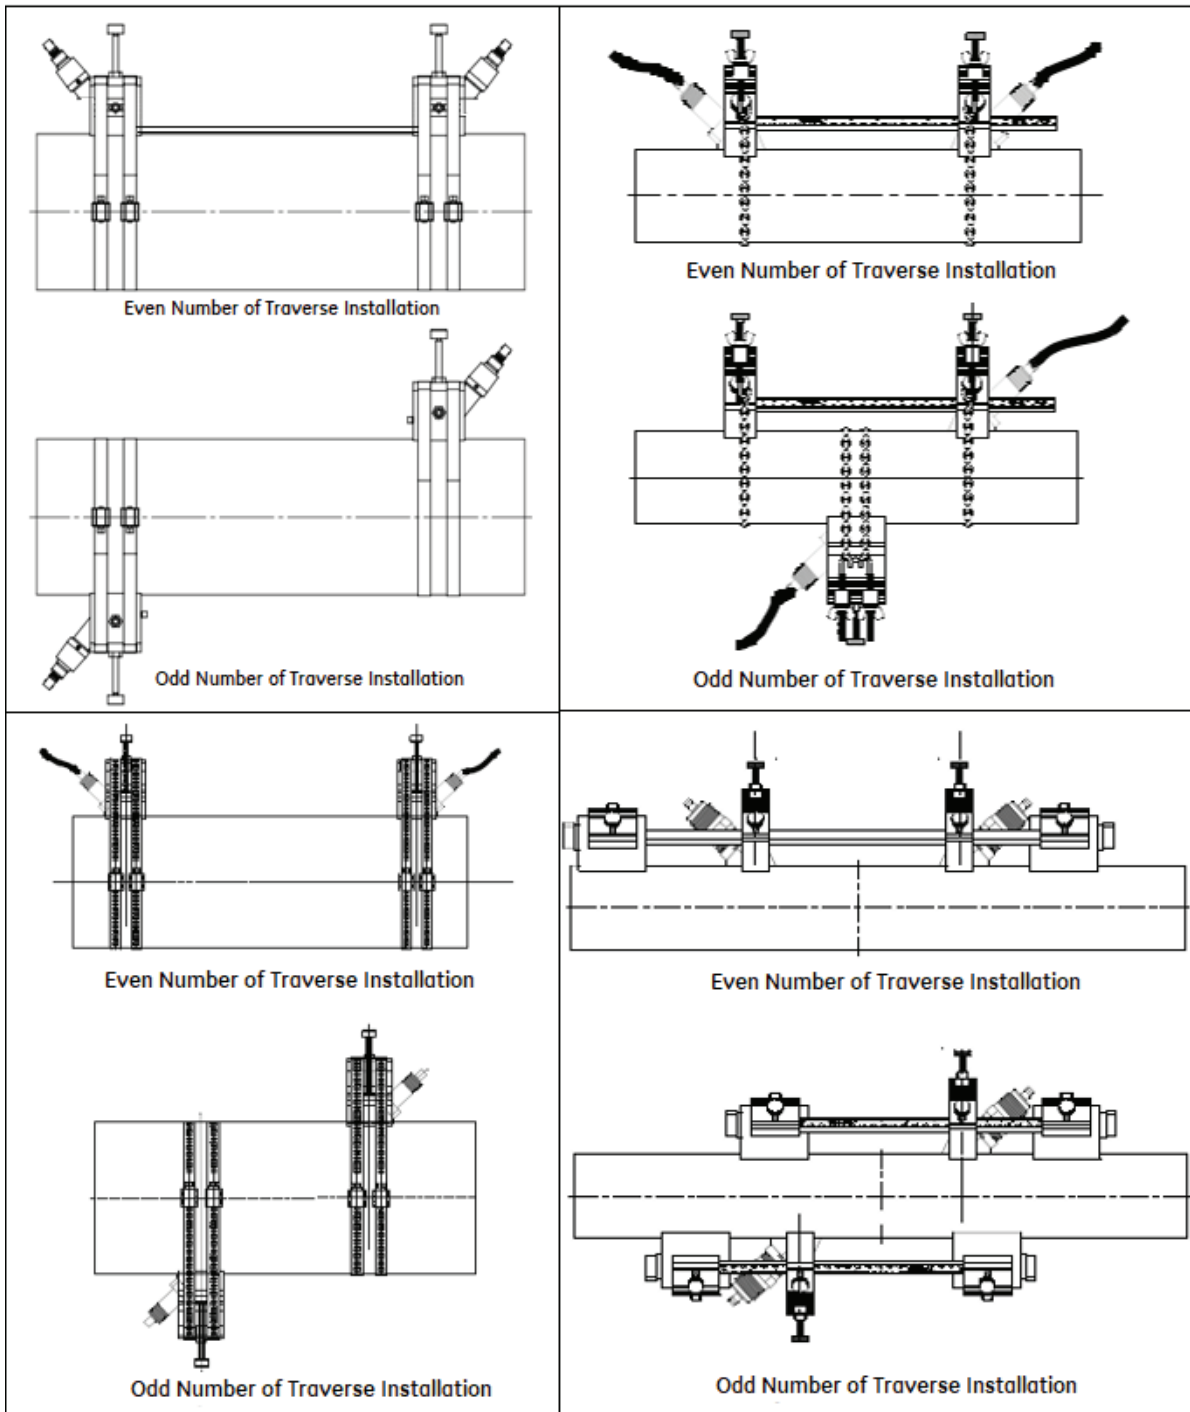

Figure 22: SCF clamping fixture (top left), UCF clamping fixture (top right), GCF clamping fixture (bottom left), MCF clamping fixture (bottom right)
For any of the fixtures above except for the SPCF, the last step in the installation is mounting the transducers into the clamping fixture. Although not all transducer models are installed the same way, the following information provides some general guidelines to help you. The face of the transducer must be in contact with the pipe because this is where the ultrasonic signal is emitted. All Panametrics transducers include a dimple, depression as it is illustrated in Figure 22, drill point or slot on the opposite side of the transducer wedge face, for use as a guide in aligning and securing the transducer. In addition, some transducers have scribe marks on the side to assist in setting the transducer spacing. Figure 17 below shows an example of the dimple and scribe marks on the transducers.
5. Repeat Steps 1-4 to mount the other transducer in the fixed short block. See Figure 22 below for completed typical clamping fixture installations.